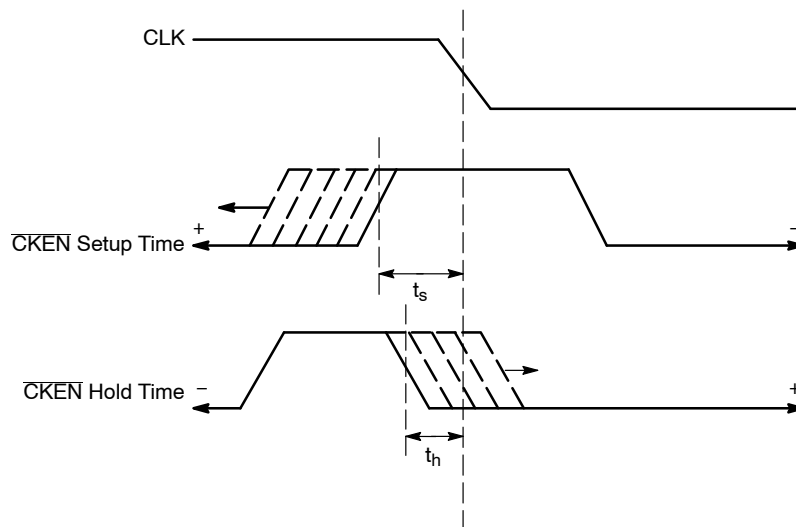

Figure 6. CKEN Setup and Hold Time
Upon power-up, the internal flip-flops will attain a random state. To synchronize multiple flip-flops in the device, the Reset (pin 1) must be asserted. The reset pin will disable the internal clock signal irrespective of the CKEN state (CKEN disables the internal clock circuitry). The device will grab the first stream of data after the falling edge of RESET①, followed by the falling edge of CLK②, on second rising edge of CLK③ in either CKSEL modes. (See Figure 6)